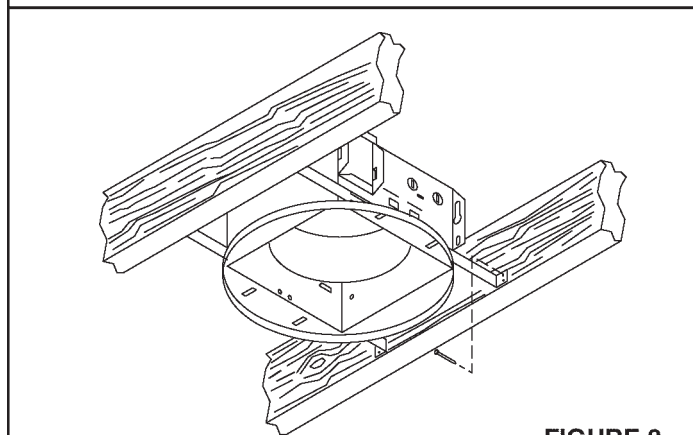
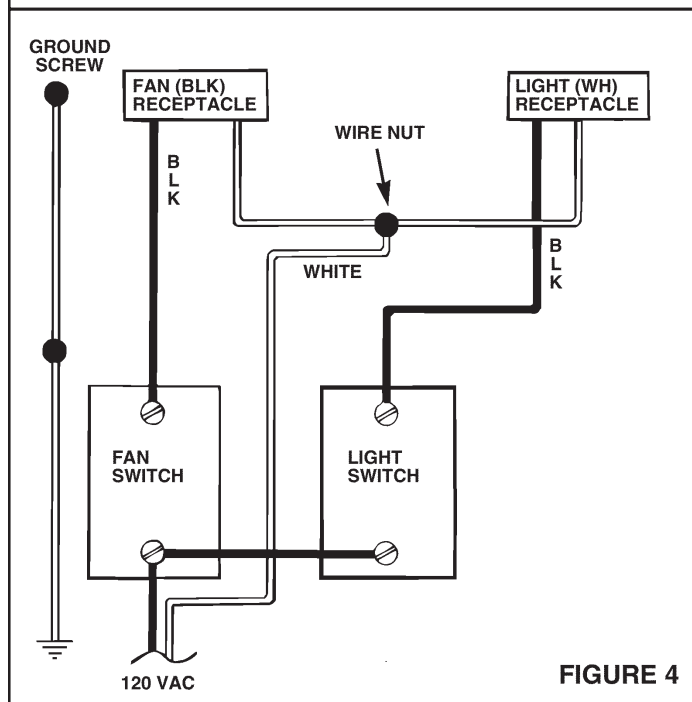

FIGURE 3
FIGURE 4
Refer to Figure 3.
4. **Refer to Figure 4.** Connect white wires from the fan and light receptacles to white (neutral) wire from the supply. Connect black wire from fan receptacle (black) to wire from fan switch. Connect black wire from light receptacle (white) to wire from light switch.
WIRING AND DUCTING: Plan ducting and wiring BEFORE proceeding with installation. Refer to Figures 4 and 5 for wiring and Figure 3 for ducting.